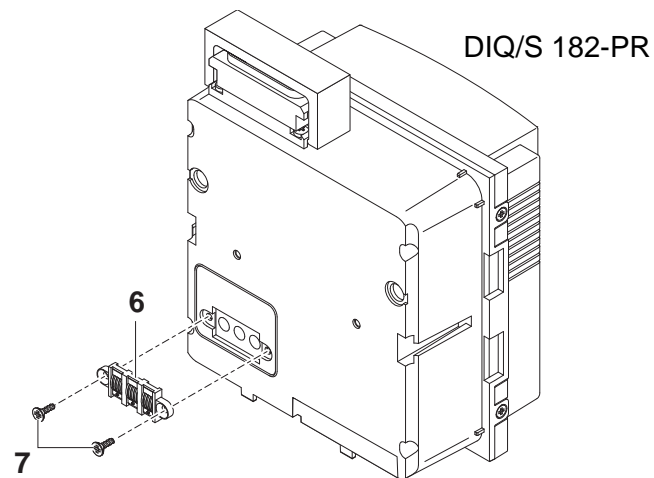

Fig. 3-7 Mounting the contact base (variant 2)
| 5 | Attach the contact base (pos. 6 in Fig. 3-7) on the Universal Transmitter with the two plastic tapping screws (pos. 7). |